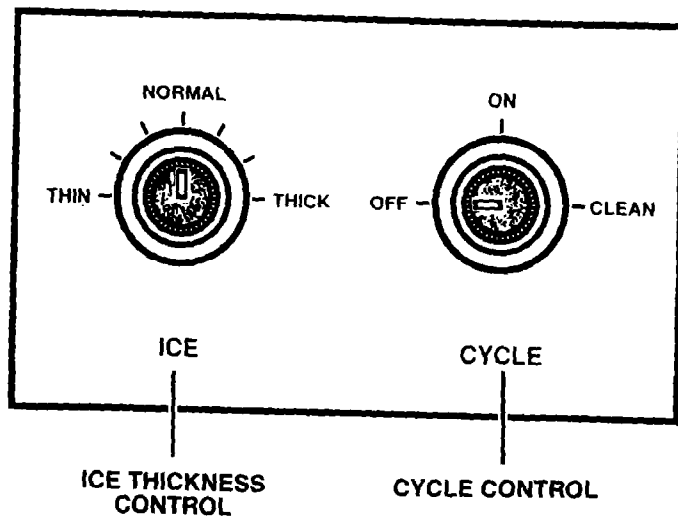

FIGURE 1 - CONTROL SWITCHES
Your ice maker has been pre-set to produce ice approximately 13 mm ($\frac{1}{2}$ ") thick. The thickness can be increased or decreased by resetting the thickness control, Figure 1, however best performance will be obtained at the 13 mm ($\frac{1}{2}$ ") thickness.
1. Place cycle control, Figure 1, in "OFF" position.